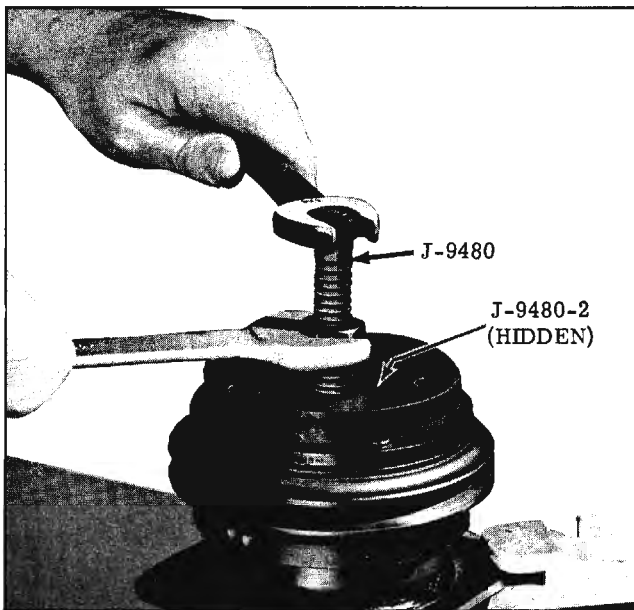

Fig. 15-45 Installing Driven Plate
3. Position the Driven Plate Installing Tool J-9480 on the threaded end of the shaft. The "Free" Washer, J-9480-2, should be in place under the hex nut on the tool. This tool has a lefthand thread on the body. (Fig. 15-45).